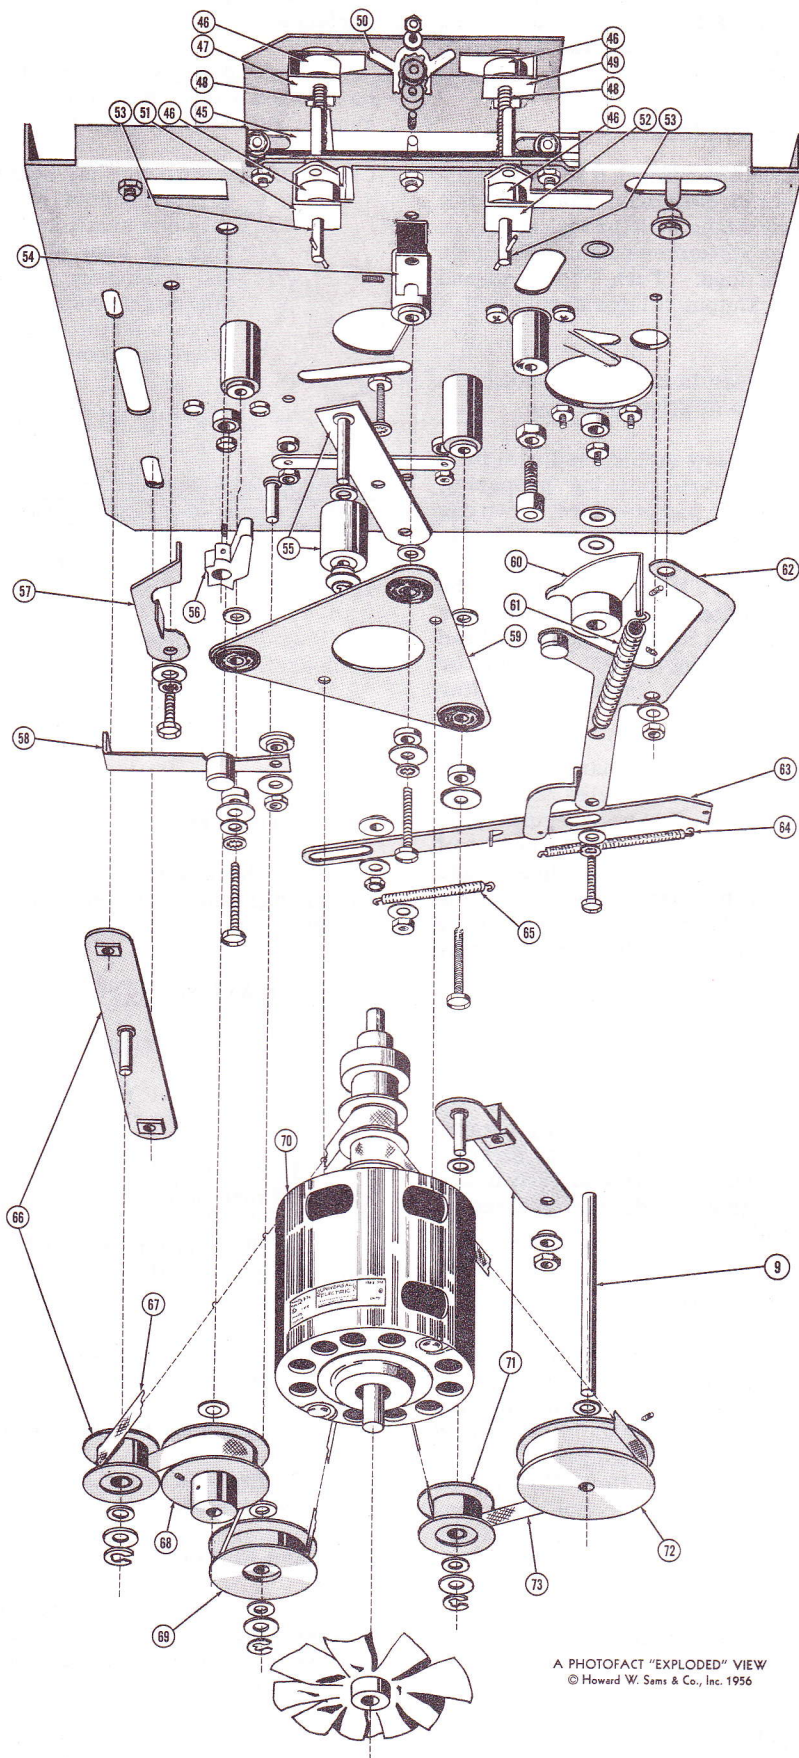

Figure 6B. Exploded View Of Parts Below Baseplate.
A. A bent clutch plate shaft (Item 9, Fig. 6B). If bent, replace.
B. A rough or uneven clutch surface (9), particularly if the take-up reel bearing fit is too free. To check clutch felt surface, remove the take-up reel support (8) and run machine in play position while holding a broad-bladed tool close to the felt surface to observe vertical motion.